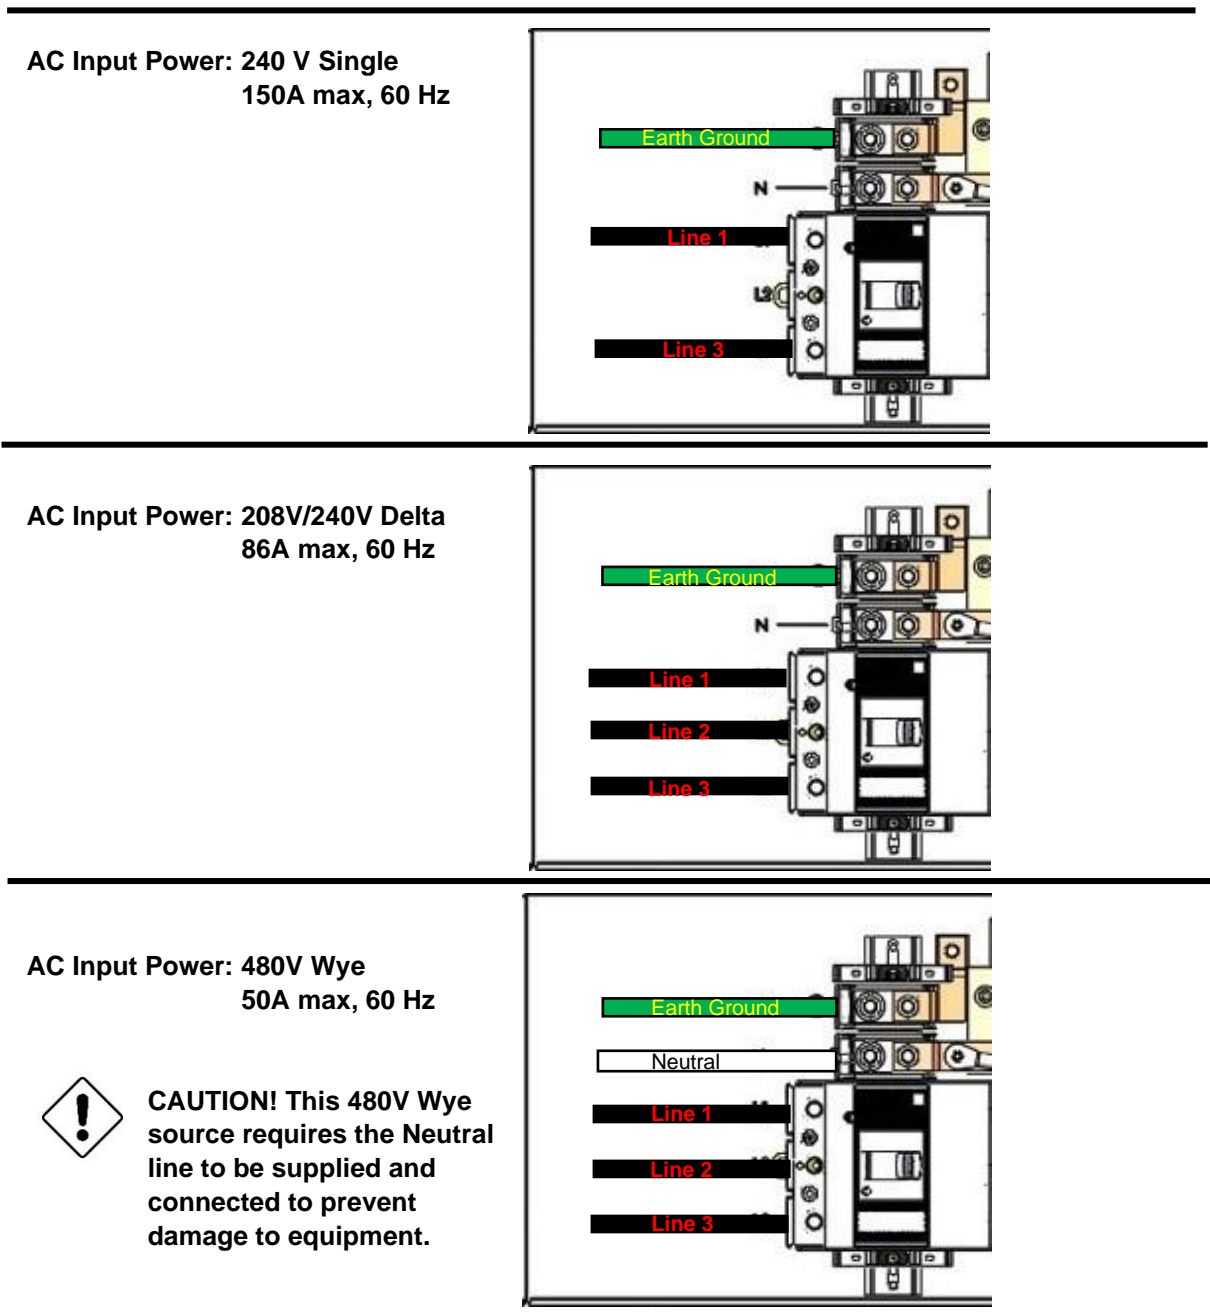

Figure 33—AC Input Power Wiring for Different AC Input Power Configurations
9. Notice the three AC input power wiring configurations shown in Figure 33, then select the wiring configuration needed for this charger.
10. Wire AC Input Power to charger’s AC Main Switch lugs per Figure 33 and local and national regulations, then tighten all 5 lugs (PE, N, L1, L2, and L3) to 17 N-m (150 lbs.).